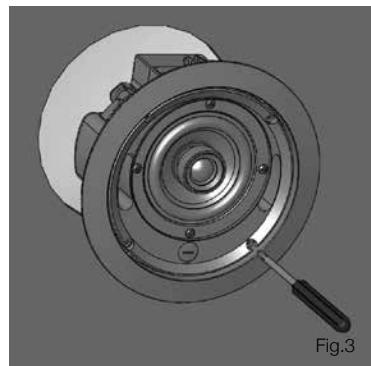

Fig.3
4. Slide the speaker assembly through the hole and turn the screws to extend the mounting wings. Tighten the screws until a firm grip is achieved. If using a power driver, Tannoy recommends a torque setting of 1.5 Nm. (Fig.3)